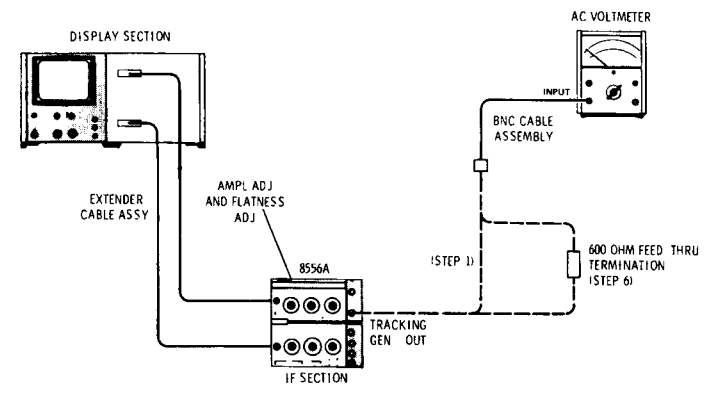

Figure 5-5. Tracking Generator Adjustment Test Setup
- Connect equipment as shown in Figure 5-5, connecting AC Voltmeter directly to TRACKING GEN OUT with 24" BNC cable.